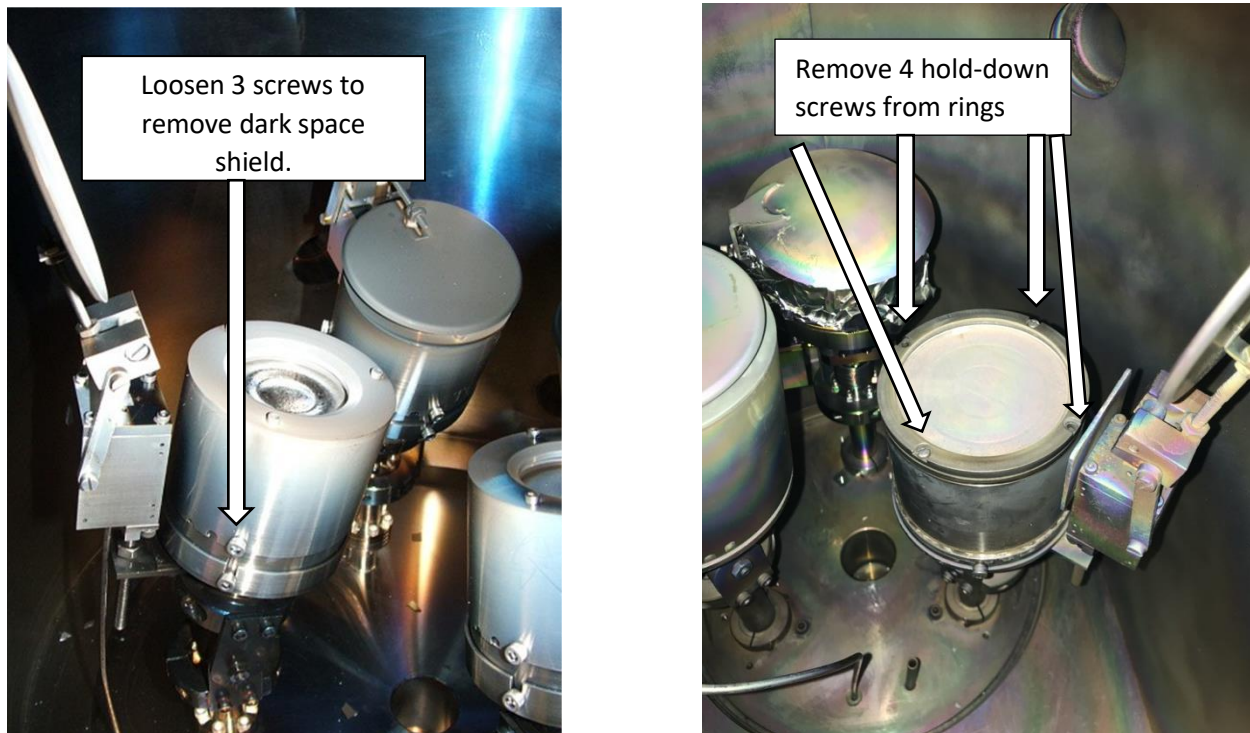

Fig. 5: Sputter gun with DSS on (left) and DSS off (right).
- c. If there is a short, remove the DSS, adjust the rings holding the target and the target itself (see Fig. 5).